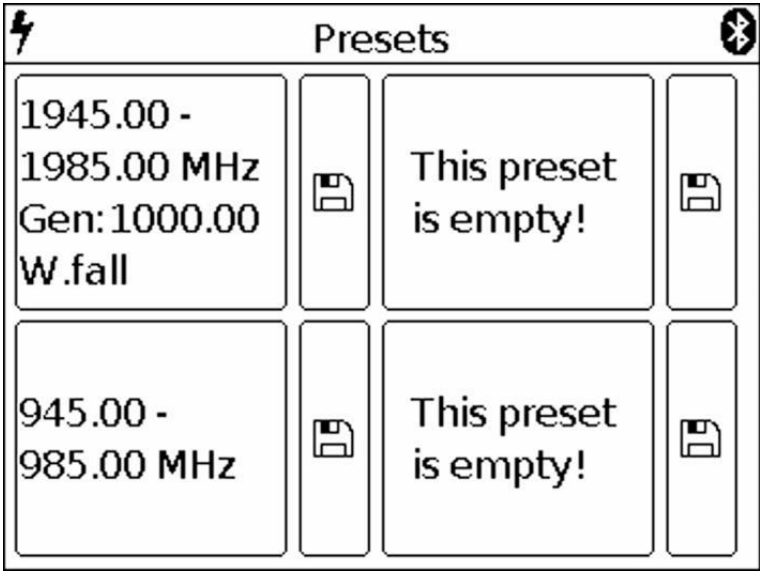

Figure 23 Custom settings menu
7.9.1. To save the spectrum scan settings (frequency range, attenuator value), settings for equipment testing (frequency and power of the internal signal generator), etc., enter the main menu by pressing the «MENU» (Figure 6) and select subsection Presets. A menu of custom settings will appear on the screen, as in figure 23.